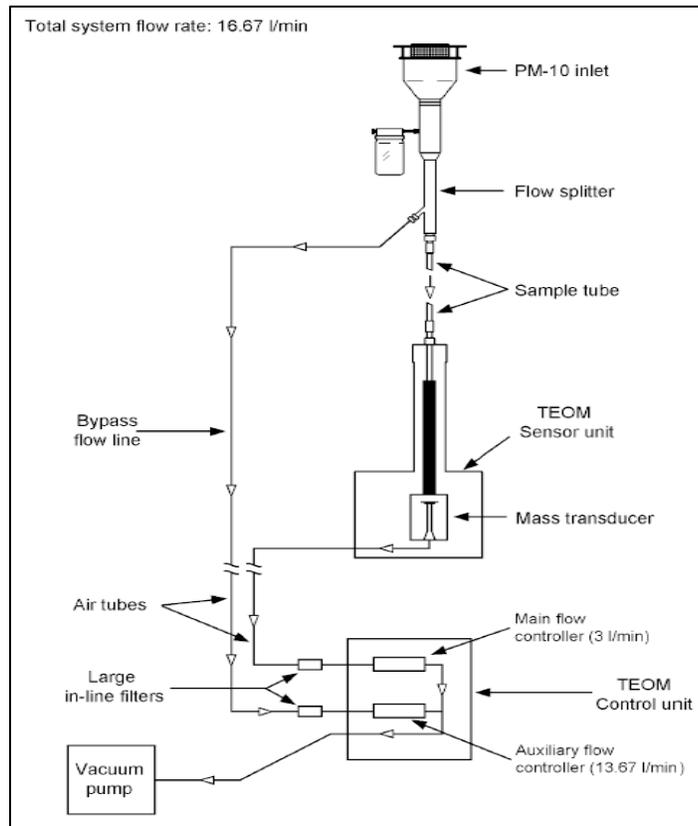

Figure AR-1. TEOM Schematic
1. See Figure AR-1 for the TEOM Schematic.